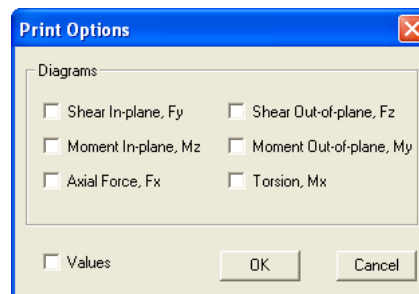

Figure 3-47 Print Options dialog box
Choosing the PRINT button displays the dialog box of Figure 3-47. You may print selected diagrams of the applicable result options (in-plane and out-of-plane moment and shear, axial force, or torsion) as well as their segmental values (at 11 locations along the member length). Choose OK to start printing or CANCEL to abort. The output is directed to the active printer.
- From the **Analyze** menu, select **Group Results**. The dialog box of Figure 3-47 appears.